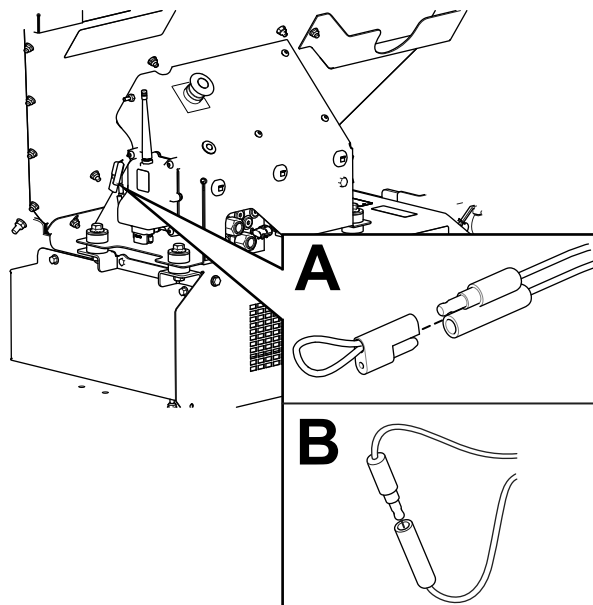

Figure 59
2. Pull the tethered cap off the 2 diagnostic shunt connectors (Figure 59, A).
3. Connect the diagnostic shunt connectors together (Figure 59, B).
- Disconnect the diagnostic shunt connectors (Figure 59, B).
- Push the tethered cap onto the 2 diagnostic shunt connectors (Figure 59, A).